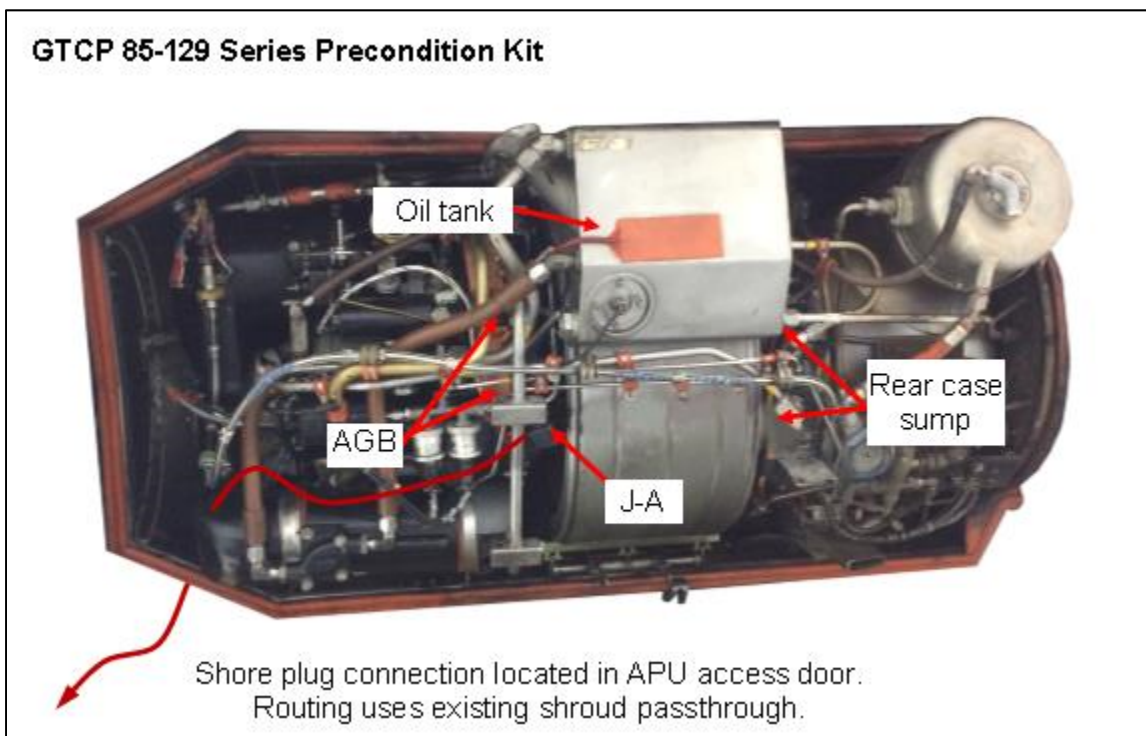

Figure 4.1. APU preconditioning kit layout (bottom view).
- (a) In APU access door refer to Figures 4.1 and 4.4.